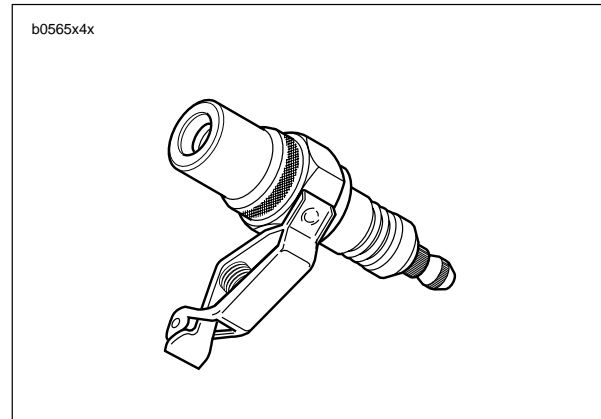

Figure 4-30. Spark Tester (Part No. HD-26792)
1. See Figure 4-30. A SPARK TESTER (Part No. HD-26792) must be used to verify adequate secondary voltage (25,000 volts) at the spark plug.